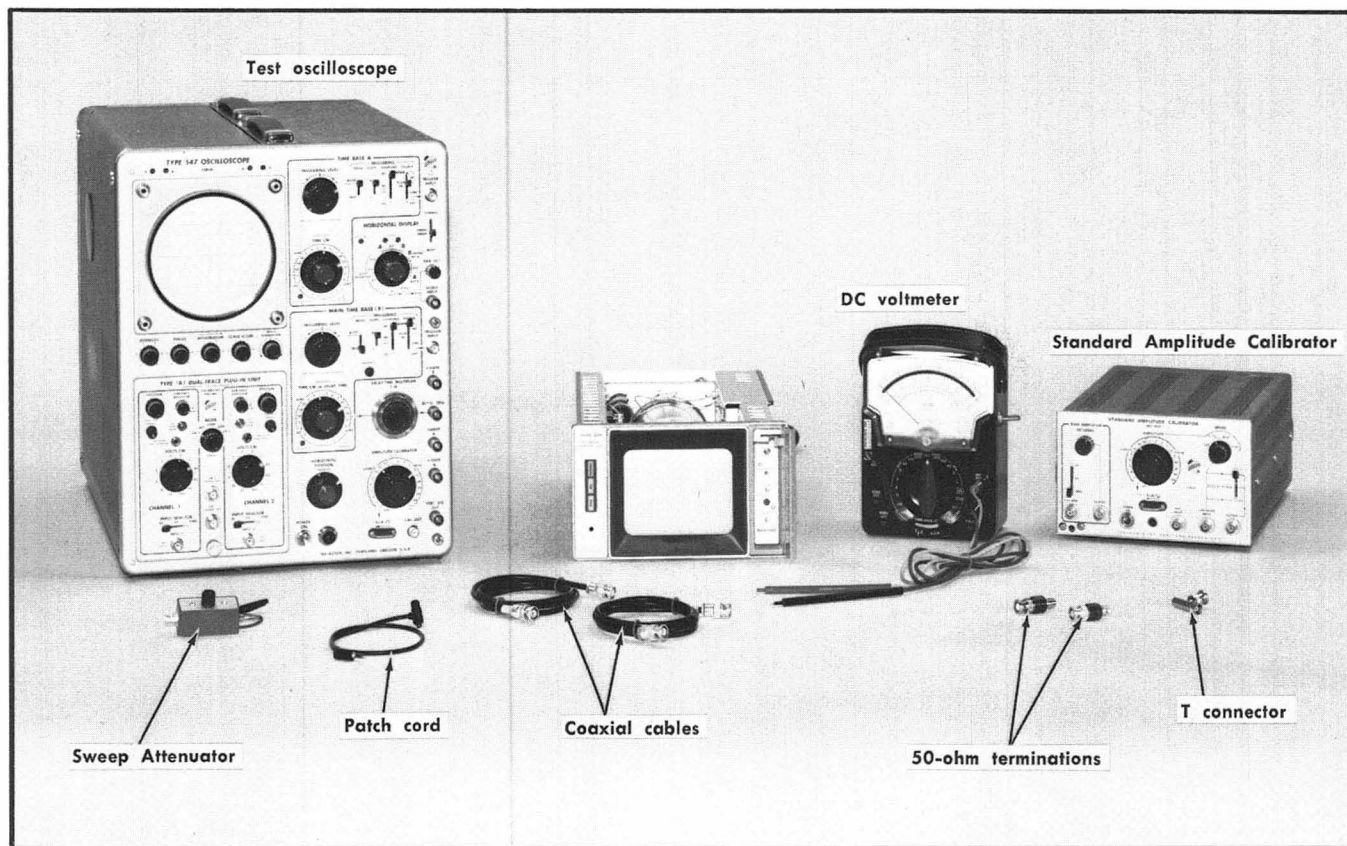

Fig. 6-5. Equipment required for steps 6 through 12.
a. Test equipment setup is shown in Fig. 6-5.